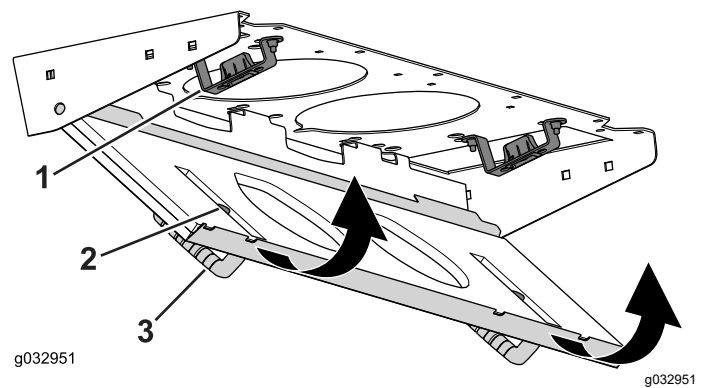

Figure 84
4. Rotate the filter screen around the tabs until the latch locks into the latch-mount assembly (Figure 84).